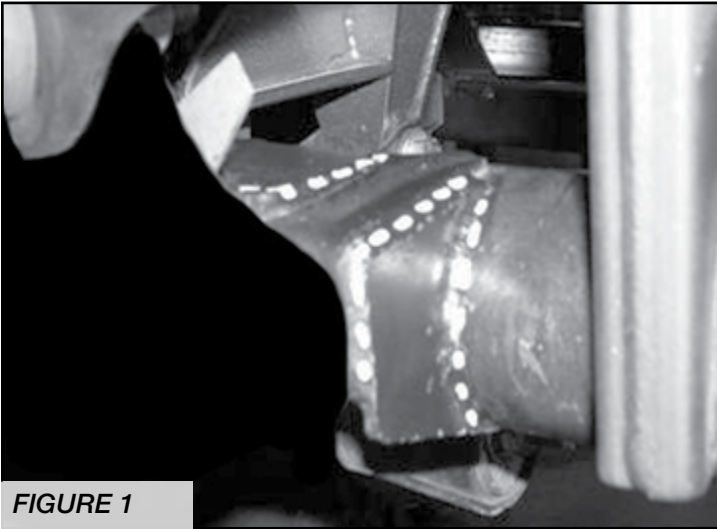

FIGURE 1
3. Locate FT50344 gusset; position it onto the axle and the factory trac bar mount as shown in photo. Weld the gusset on the three outward / top sides. **SEE FIGURE 1**